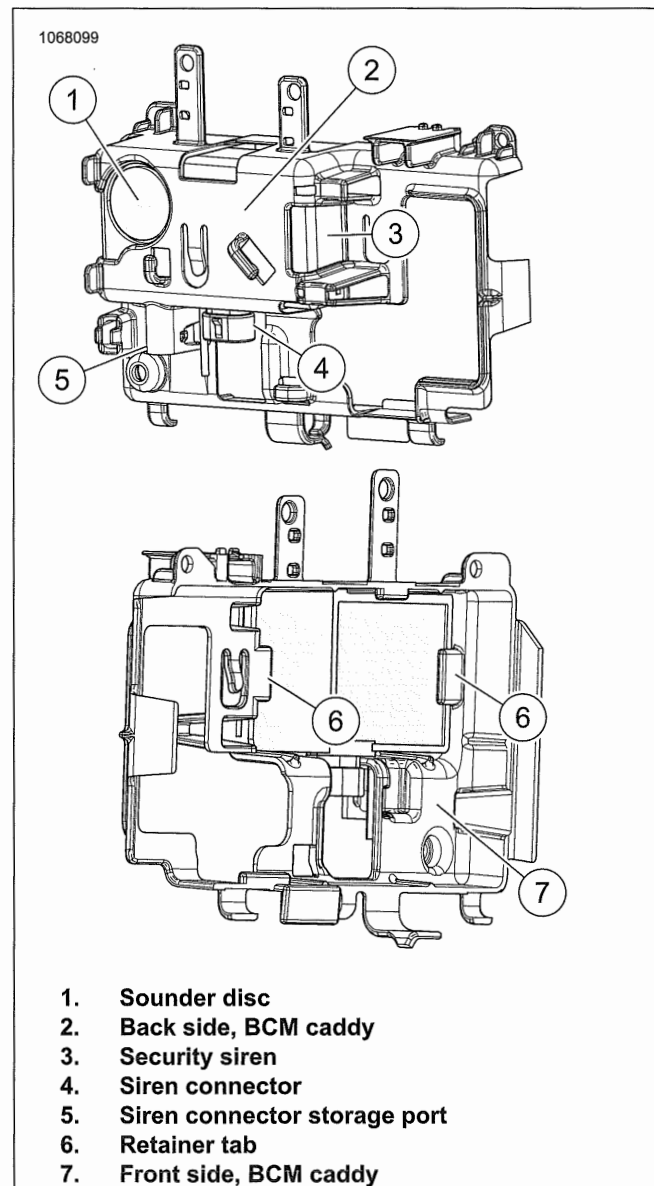

Figure 7-119. Security Siren and BCM Caddy: (Removed for clarity)
1. See Figure 7-119. Remove security siren (3).
2. Disconnect connector (4).
1. **First-time security siren is being installed:** Disconnect security siren connector (5) from back side of BCM caddy (2).
2. See Figure 7-119. Connect connector (4).
3. Install security siren into front side of BCM caddy (7).
- a. Verify that sounder disc (1) is facing to the rear of the vehicle.
- b. Place security siren into BCM caddy and press into place locking retainer tabs (6).